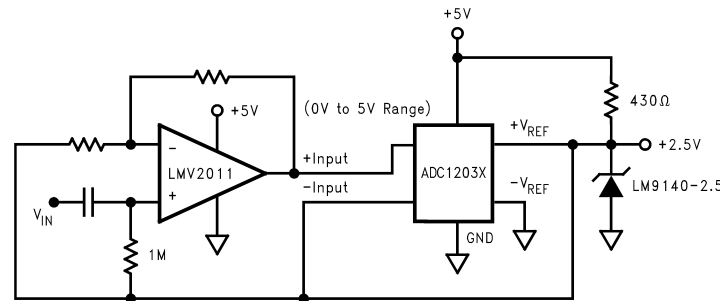
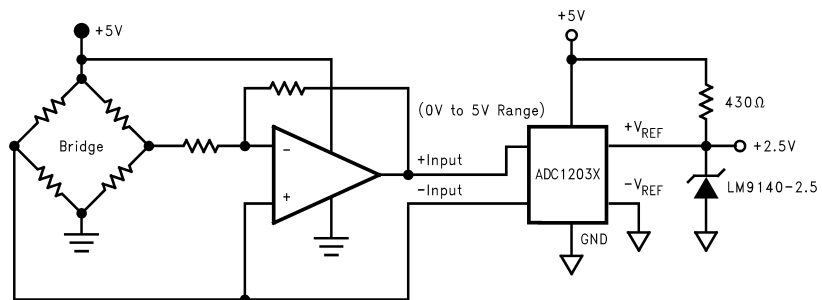

Figure 36. AC Coupled ADC Driver
Figure 37. DC Coupled ADC Driver
The LMV2011 is a great choice for an amplifier stage immediately before the input of an ADC (Analog-to-Digital Converter), whether AC or DC coupled. See Figure 36 and Figure 37. This is because of the following important characteristics:
- E)** Rail-to-Rail output swing maximizes the ADC dynamic range in 5-Volt single-supply converter applications. Below are some typical block diagrams showing the LMV2011 used as an ADC amplifier (Figure 36 and Figure 37).